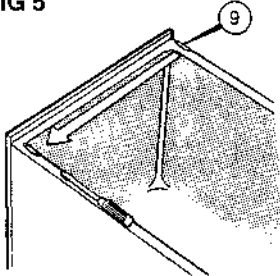

FIG 6
**7.** It is important that the spacer (6) is retained with screw (4) in the channel between the base of the appliance and the foot/hinge when screwing the assembly into its new position.
**9.** Replace the level adjuster (1) in the small foot.
**11.** If your appliance has a side fix handle, see Fig 6.